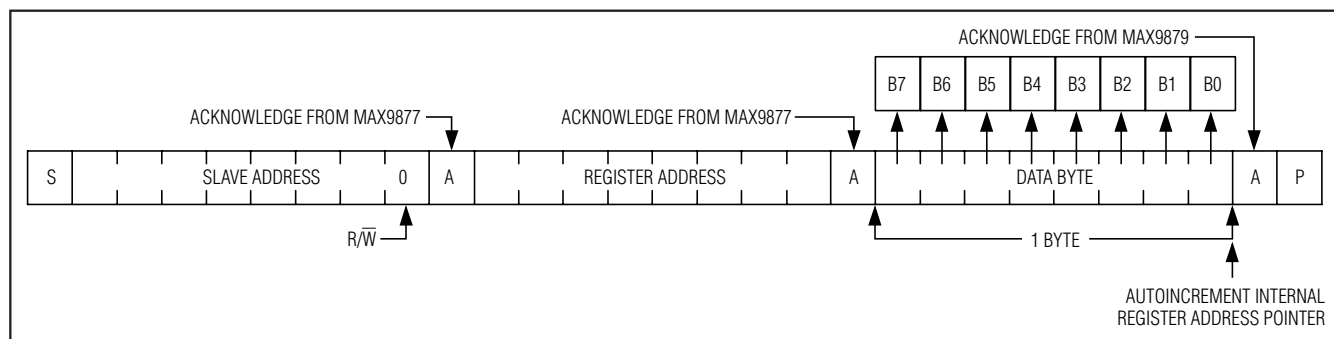

Figure 9. Writing One Byte of Data to the MAX9879
A write to the MAX9879 includes transmission of a START (S) condition, the slave address with the R/W bit set to 0, one byte of data to configure the internal register address pointer, one or more bytes of data, and a STOP (P) condition. Figure 9 illustrates the proper frame format for writing one byte of data to the